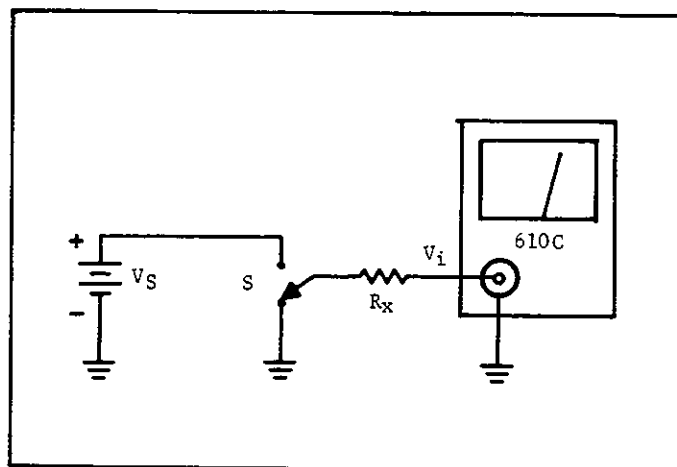

FIGURE 8. Resistance Measurements.
c. Volt-Ampere Resistance Measurements. This method is useful when the voltage drop across the unknown resistance must be accurately controlled. For this measurement the 610C is used in the NORMAL mode with the RANGE switch set to AMPERES. The circuit connections are shown in Figure 8. To determine the resistance the Multiplier setting should be subtracted from the voltage source setting. The resistance is therefore the ratio of the net voltage divided by the current measured by the 610C.